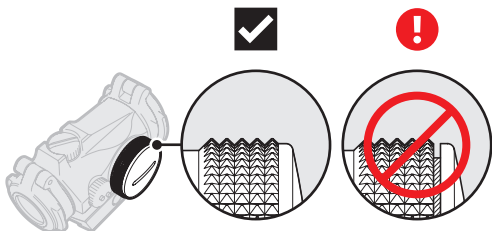

Fig. 1 → 2.1
- c Turn to the rotary switch (8) to intensity setting 12 (max.) and tighten the battery cap (6) with the tool (13A). When resistance is encountered, proceed to tighten until the battery cap (6) comes to a **stop**.
- d Verify that the red dot is present and that there is zero gap between the battery cap (6) and the battery compartment. See Fig. 1.